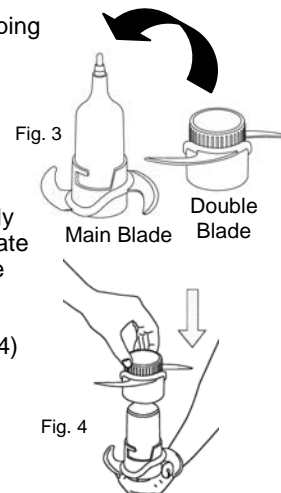

Fig. 3
- To use as a double blade, carefully slip the separate blade over the shaft of the main blade. (Fig. 3 & Fig. 4)